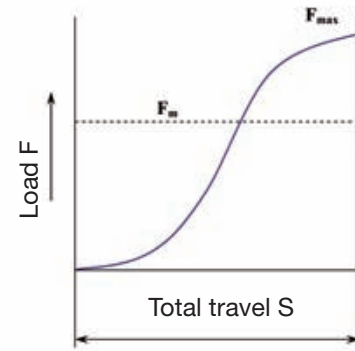

Figure 2.9 Sinusoidal load change (a)
- > Sinusoidal (Figure 2.9 and 2.10)